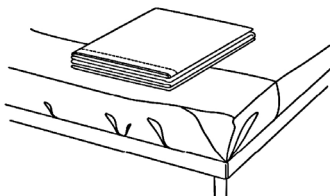

Fig. 6
1. Place the folded Canvas Stretcher on the bed or a suitable supporting surface (see Fig. 6).